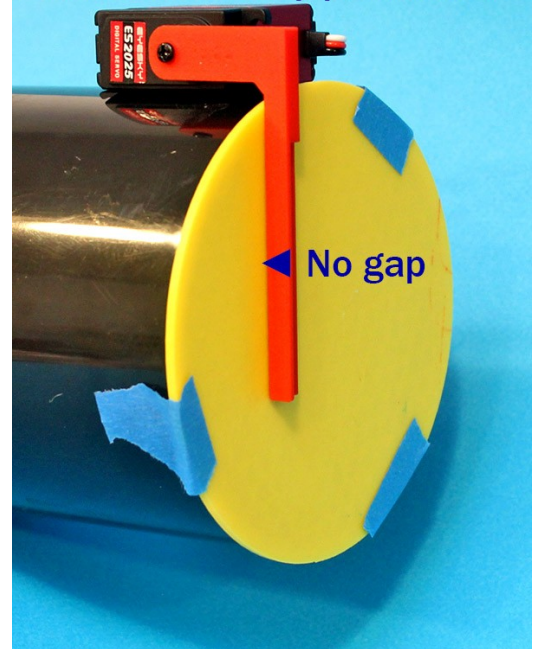

Figure 18: Servo correctly positioned with no gap
- Once you have positioned the servo fore-and-aft so there's no gap between the bracket and the cap, as seen in Figure 18, you might want to tape it in place, but you will be removing it in the next step to apply Goop to it and the bracket.